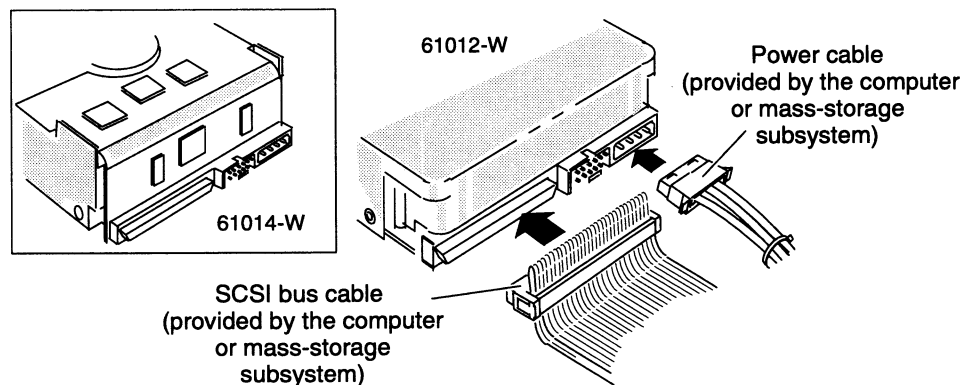

Figure 21 Connecting the SCSI bus cable and power cable to the back of the Model 61012-W or 61014-W disk drive (Version B)
11. If you are installing a Model 61012-W or 61014-W disk drive, connect the SCSI bus cable provided by the computer or mass-storage subsystem into the SCSI bus connector on the back of the disk drive (Figure 21).
Make sure the color tracer wire on the SCSI bus cable connects to pin 1 in the SCSI connector on the disk drive (Figure 21).
- ▶ If you are installing a drive model with a -W suffix, refer to Figure 21.